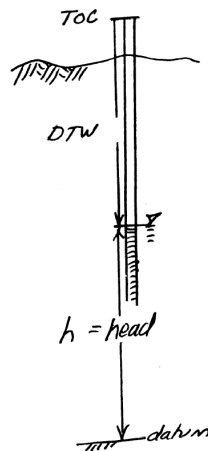

Figure 3: Sketch showing the relationship of top of casing (TOC) and depth to water (DTW)
Figure 3 is a sketch that shows the relationship between the top of casing elevation, depth to water, and head in the confined aquifer.
- Using Figure 3 as a guide, write the formula to convert the depth-to-water (DTW) measurements and top-of-casing (TOC) values into head.
- Using Figure 3 as a guide, compute the head in MW-A. Show your arithmetic.
- Using Figure 3 as a guide, compute the head in MW-B. Show your arithmetic.
- Using Figure 3 as a guide, compute the head in MW-C. Show your arithmetic.